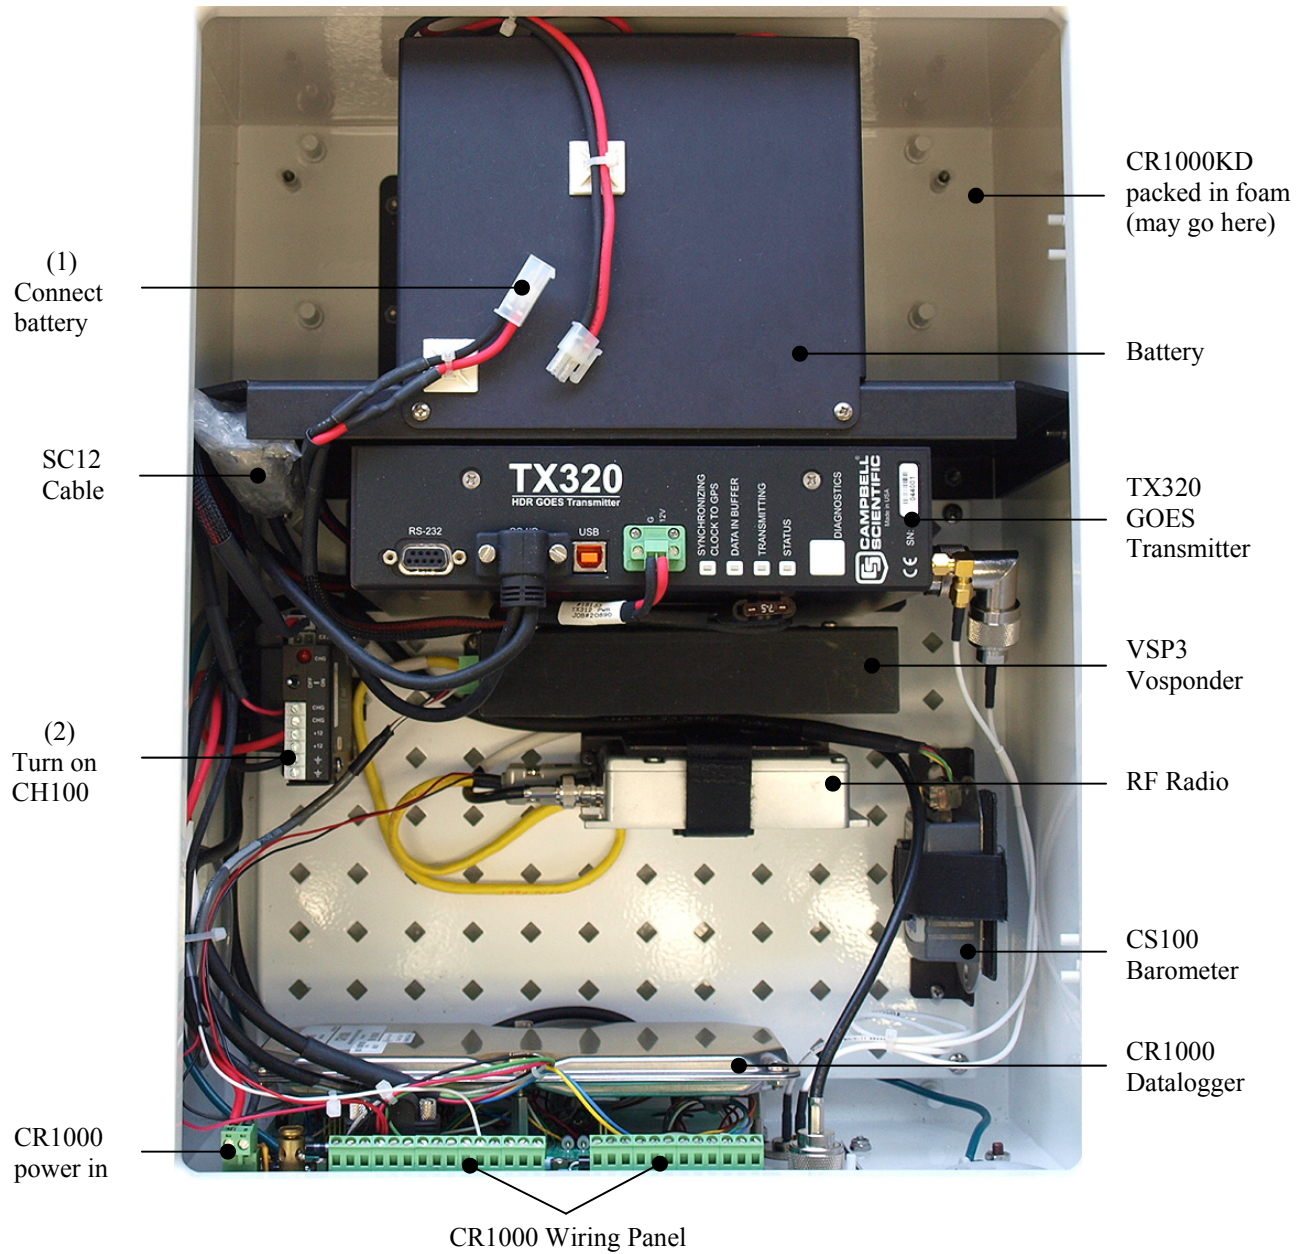

FIGURE 2-1. Inside environmental enclosure (optional equipment shown)
- Connect the CR1000KD Keyboard Display to the CS I/O connector (Figure 5.7-2) or SC12 Cable (Figure 2-1)